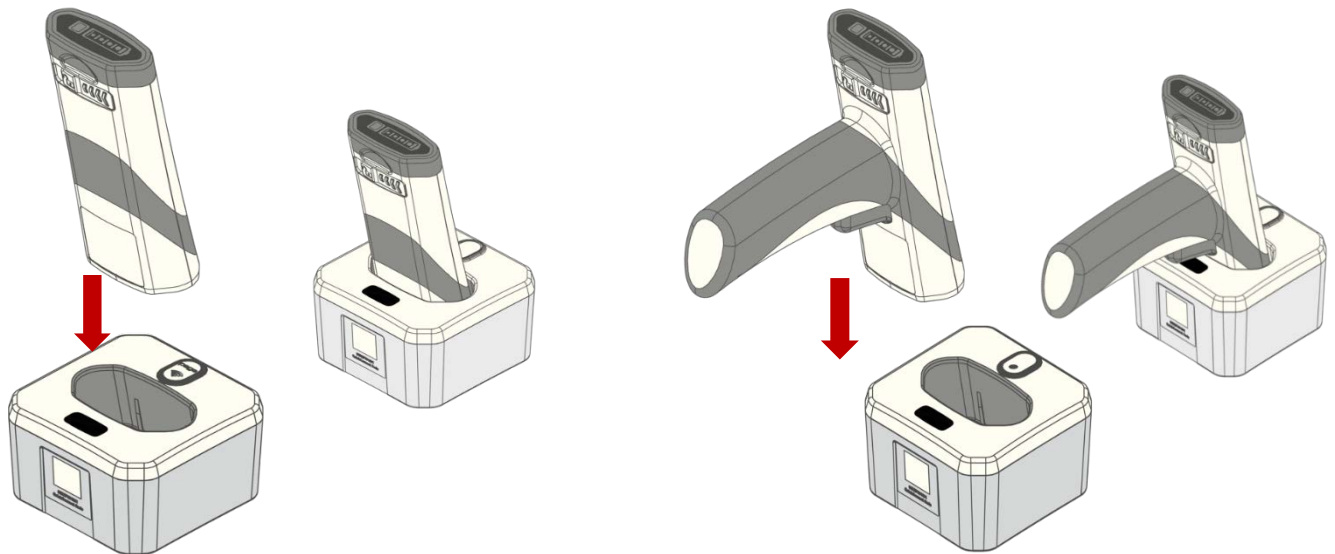

Figure 11 Charging Reader in Charging Station
5.10.1. To charge the battery installed in the reader, place the reader in the charging station with the scan window facing down (Figure 11). The reader will beep once if the reader is powered off and wakes up, another beep if the reader has been paired with the charger and reconnects. The Power Gauge LEDs on the battery will start flashing 4 second on and 1 second off alternately. Once the battery is fully charged, the Power Gauge LEDs will stay on solid. The battery will be fully charged in approximately 3.5 hrs when using the charging station with an external power supply (CRA-P4). Charging time may vary if the inductive charger is connected to a PC USB port.